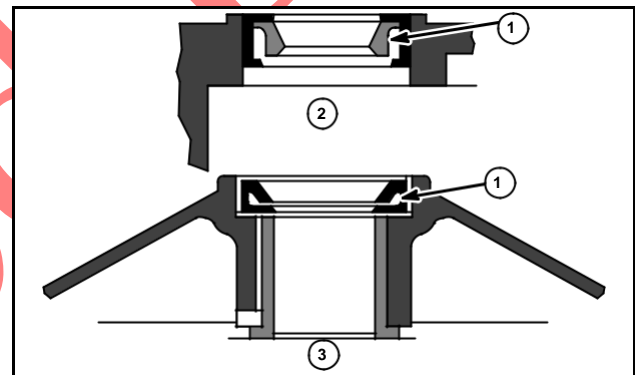

Fig. 28
1. Install seals with sealing lip (1) toward engine side of gear case (2) or cover assemblies (3) until seal is flush with case or cover, Fig. 28.